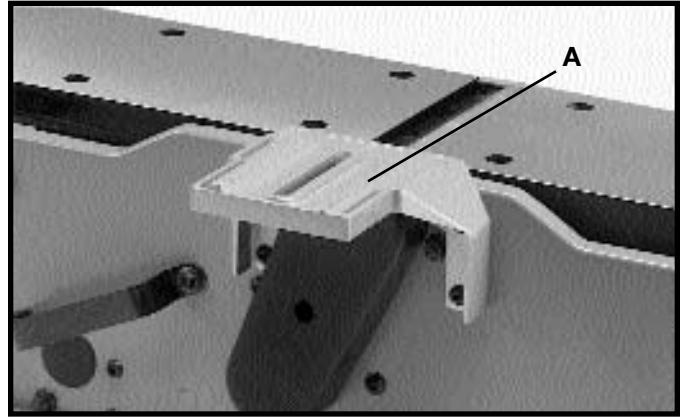
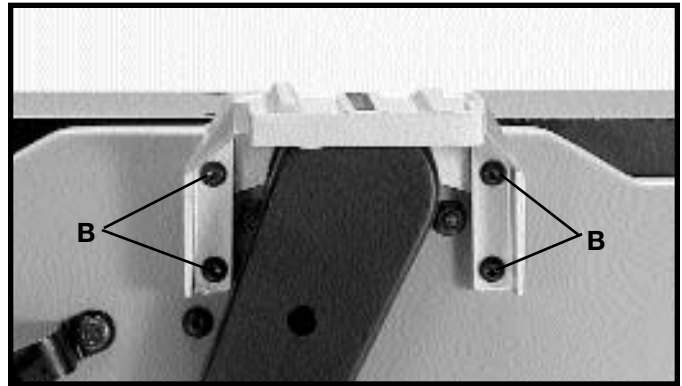

Fig. 5
Fig. 6
1. Assemble the fence mounting bracket (A) Fig. 5, to the jointer base using the four 5/8" long socket button head screws (B) Fig. 6.